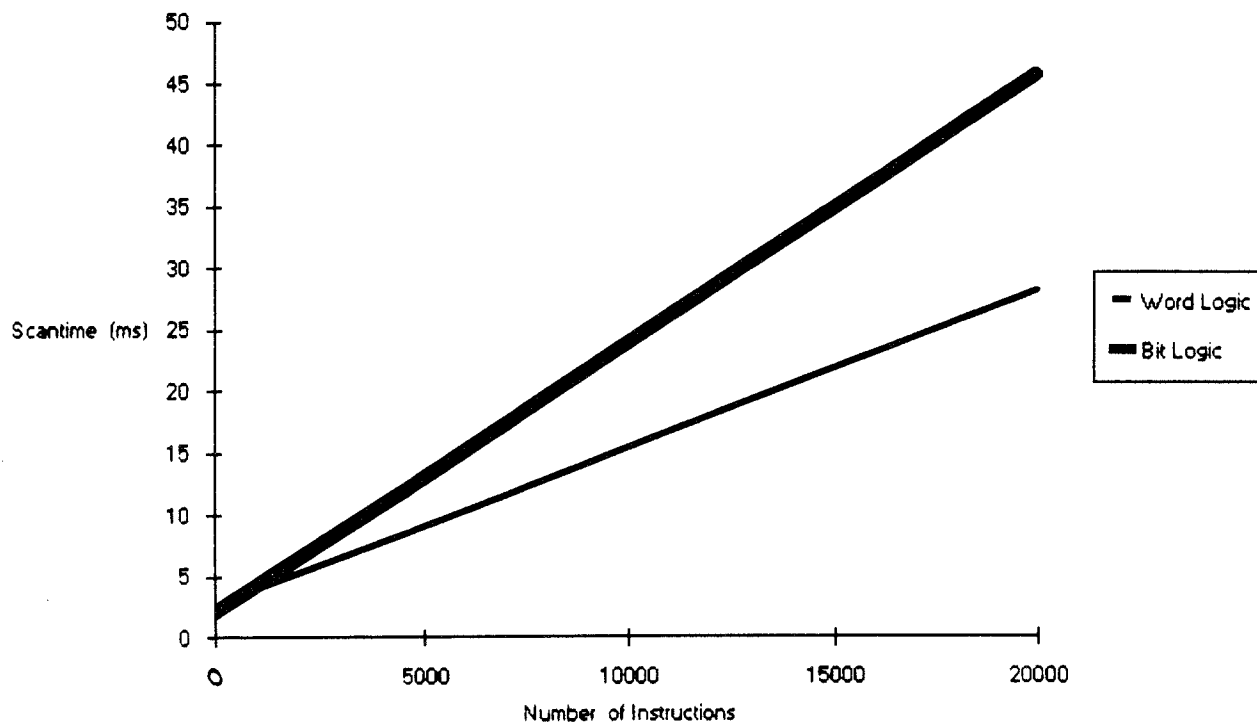

Figure 2.3 Execution Times for Bit Logic and Word Logic Instructions
- (1) T_s = The System overhead - the time taken by the system checks in each scan loop; this is a constant 3ms.
- (2) T_b = The Bit logic instructions - the total time taken to execute all the --[-- and --()-- instructions in the ladder program. To calculate T_b count the number of bit logic instructions in the ladder program and use the graph in Figure 2.3 to estimate the value.
- (3) T_w = Word logic instructions - the total time taken to execute all the AND, OR, XOR and INVERT instructions in the ladder program. To calculate T_w count the number of word logic instructions in the ladder program and use the graph in Figure 2.3 to estimate the value.